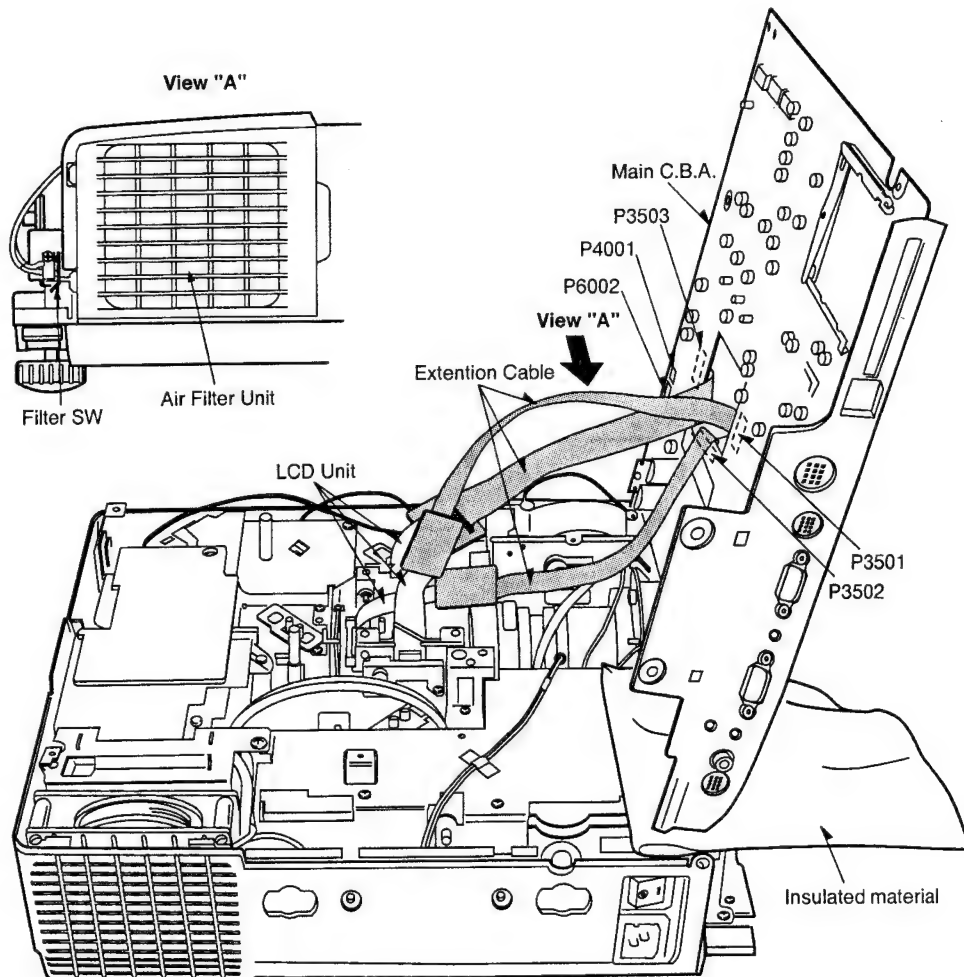

Fig. S2
The position shown in Fig. S2 is used for checking, adjusting and replacing parts.
- 5) Carefully place the Main C.B.A. as shown in Fig. S2.